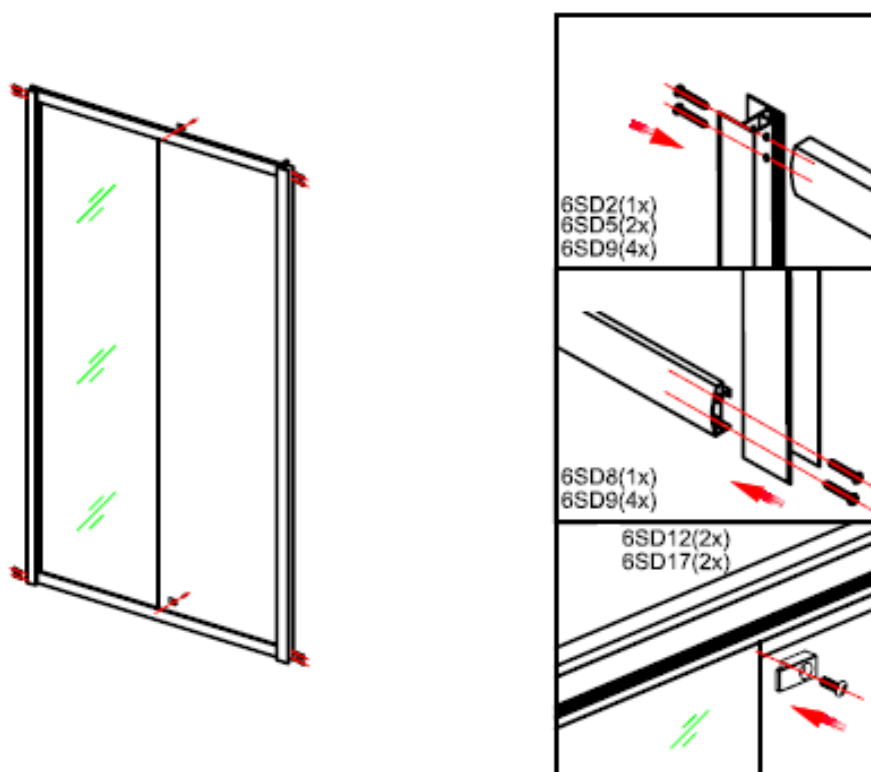

Figure 4
4. Put the fixed panel between the rail profiles(6SD5),fasten the rail profile with the fixed profile(6SD2) by using screw(6SD9).Install the stopper up and down rail,as showed in figure 4.